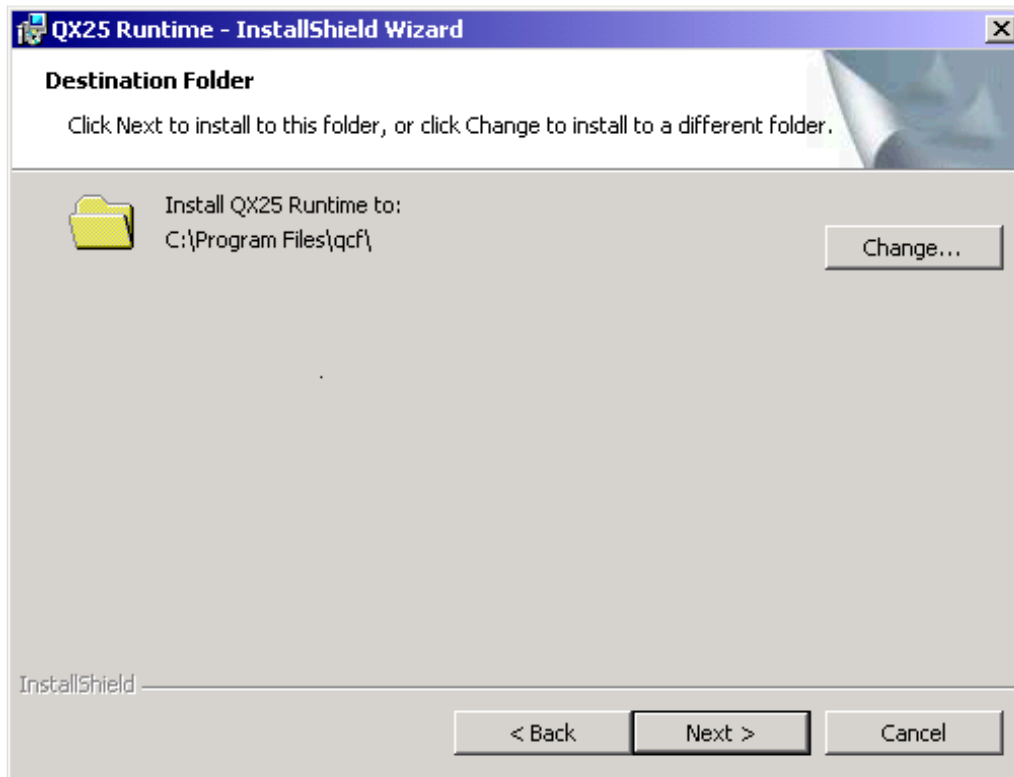

FIGURE 156. QX25 Runtime window
10. The InstallShield Wizard appears as in Figure 156.